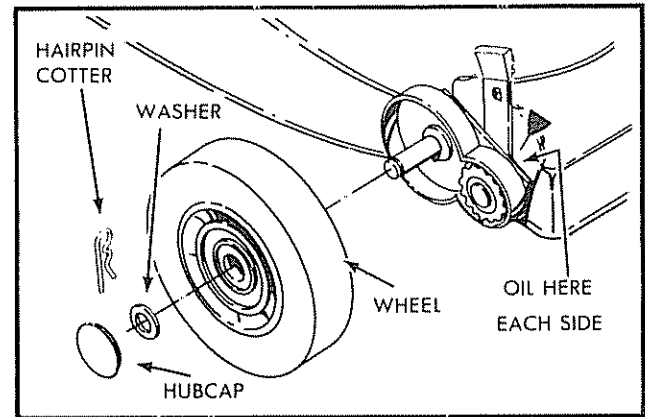

FIG. 23
FRONT WHEEL ADJUSTERS: Put a few drops of the same oil as used in the engine on the front wheel adjusters once or twice each year (See Fig. 23).
2. If necessary to clean the drive wheels (See Fig. 23) check both front wheels.